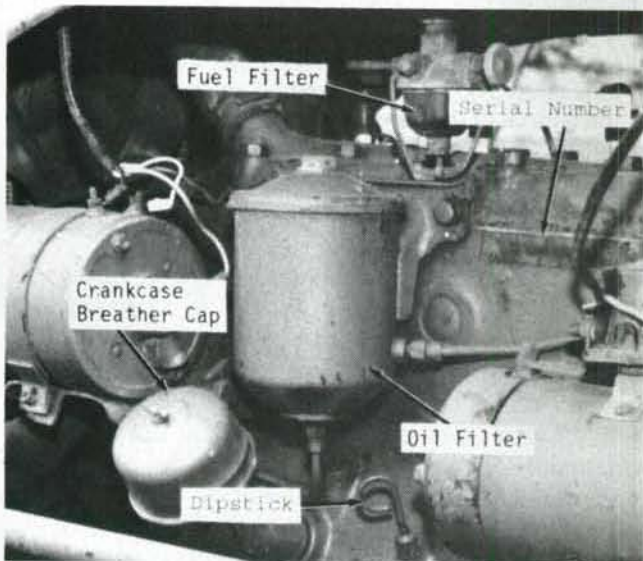

Fig. FO2—View of left side of 8N engine.
The oil filter element, located in filter canister on left side of the engine (Fig. FO2), should be changed at the same time as the oil. Always use new gaskets when reinstalling the filter canister and tighten retaining bolt to 20-25 ft.-lbs. (27-34 N·m) torque. Do not overtighten as canister may be distorted, resulting in oil leakage.
4. The engine crankcase is vented to the atmosphere to remove water vapor, gasoline vapor and blowby products which can cause deterioration of the oil and the corrosion of engine components. The crankcase is vented through the oil filler tube breather cap (Fig. FO2). If the crankcase ventilation system becomes restricted, the pressure in the crankcase will rise above normal. Higher than normal crankcase pressure may result in abnormal oil consumption and external oil leakage at the crankshaft seals.